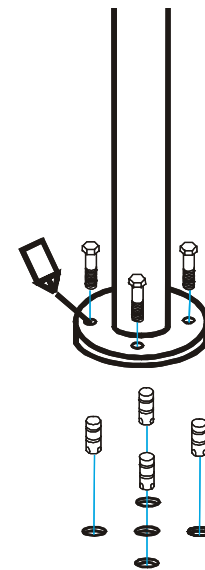

Figure 3: Post aligned with holes and anchors.
5) Place the anchor attached to the shaft and post in the hole. Lightly tap the top of the shaft nut, while supporting the weight of the post, to insert the anchor down the hole. **With Outlets:** Rotate the post so that the railing outlets are positioned in the desired direction. Mark the locations of the four- (4) outer anchor holes on the flange and remove the post (See Figure 3). **Note:** If the anchor does not easily come out, unscrew the shaft from the anchor and leave the anchor in the hole.
7) If the SA anchor remains on the center shaft, remove the anchor from the shaft and place it in the center hole, thread side down. Place a SB anchor, thread side down, in each hole of the four- (4) outer holes. Make sure the tops of the anchors are flush with the floor.